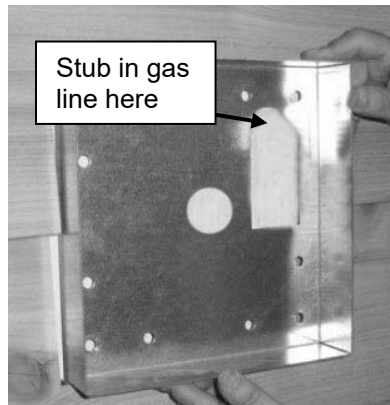

Figure 1
1. Make sure adequate framing is provided behind the wall to support the weight of the torch. Install the wall plate template in the desired location using the (4) included lag bolts. This template will help locate where the gas line and electrical will penetrate the wall (see Figure 1).